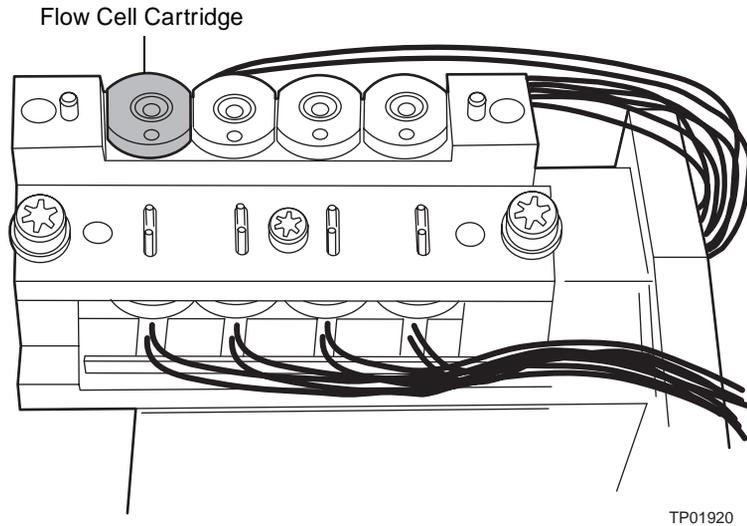

Figure 1-3 2488 Detector Flow Cell Assembly
The flow cells used in the 2488 Detector multichannel flow cell assembly (Figure 1-3) render the detector baseline insensitive to changes in mobile phase refractive index (RI). RI changes occur during gradient separations or result from temperature or pump-induced pressure fluctuations.